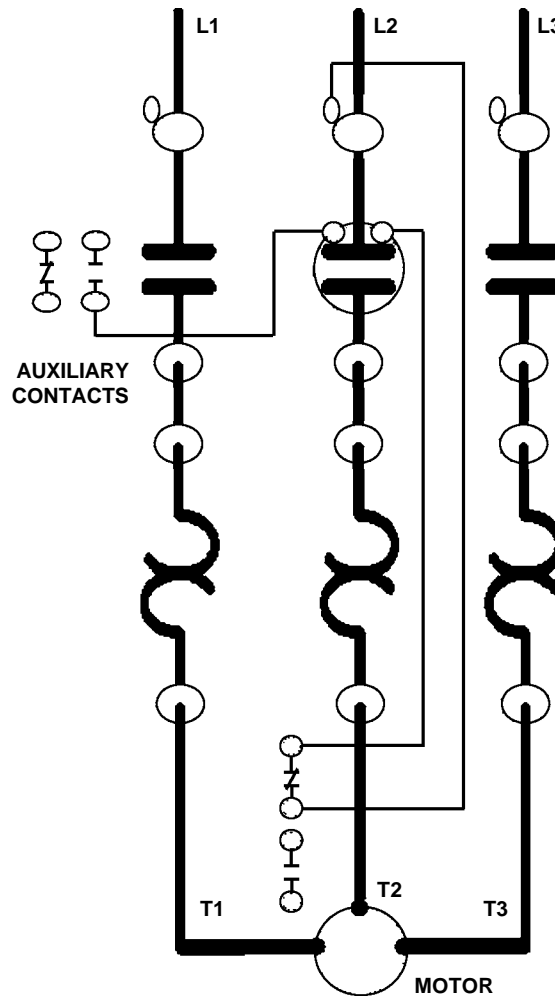

FIGURE 16. CONTROL AND POWER CIRCUITS
**The motor starter has two circuits: the power circuit and the control circuit.** Figure 16 shows a three-phase, full voltage, non-reversing magnetic starter. The thick lines are the power circuit, and the thin lines are the control circuit.
**The control circuit operates the contactor (on/off).** As shown in Figure 16, the contacts that interrupt or allow the main current to flow to the motor are controlled by opening or closing the contacts in the control circuit. The control circuit energizes the coil creating an electromagnetic field that pulls the power contacts closed, thereby connecting the motor to the line. **The control circuit makes remote operation possible.**
The control circuit can get its power in one of two ways. If the control circuit gets its power from the same source as the motor, this is termed common control. Figure 16 depicts a common control circuit configuration.